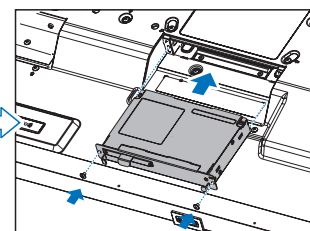

Figure 4
4. Insert the option board into the monitor and fix it with the removed screws (**Figure 4**).